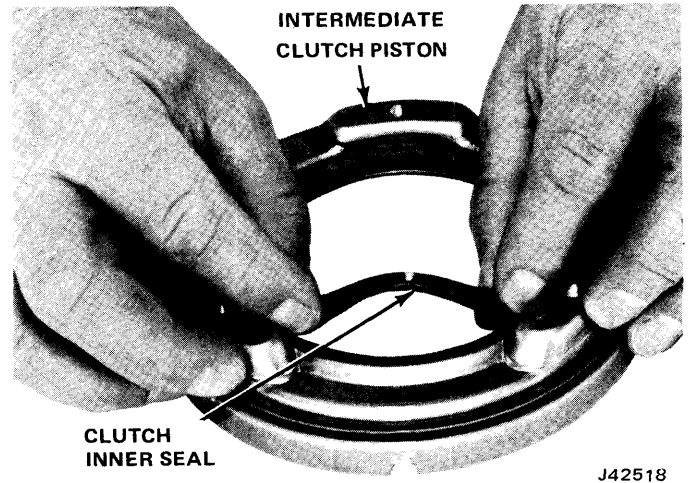

Fig. 7-94 Installing Inner Seal on Intermediate Clutch Piston
(1) Install inner seal on intermediate clutch piston, with lip of seal facing away from spring pocket (fig. 7-94).